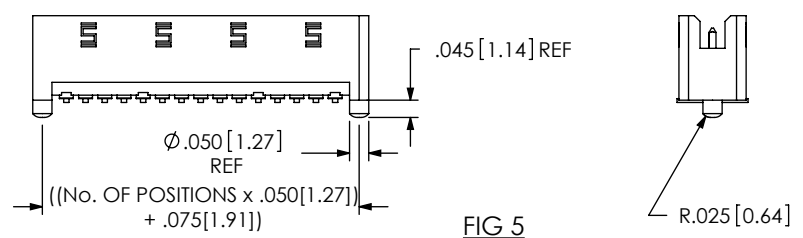

**FIG 4**
- WT: WELD TABS (USE WT-25-07-T) (SEE FIG 4, SHEET 2) (AVAILABLE ON -02 THRU -30 POS ONLY) (NOT AVAILABLE WITH -A OR -LC OPTIONS)